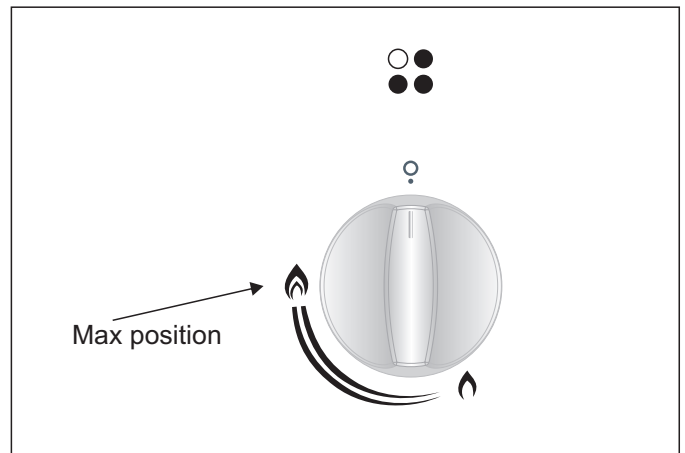

Figure 4
2. Turn the control knob fully clockwise to the 'Max' position whilst pressing in towards the control panel as shown in figure 4.